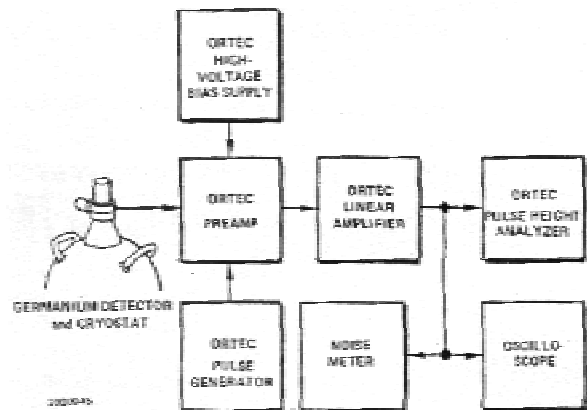

Fig. 15. System for High-Resolution Gamma Spectroscopy.
**HIGH-RESOLUTION GAMMA SPECTROSCOPY SYSTEM** A high-resolution gamma spectroscopy system block diagram is shown in Fig. 15. Although a biased amplifier is not shown (an analyzer with more channels being preferred), it can be used if the only analyzer available has fewer channels and only higher energies are of interest.